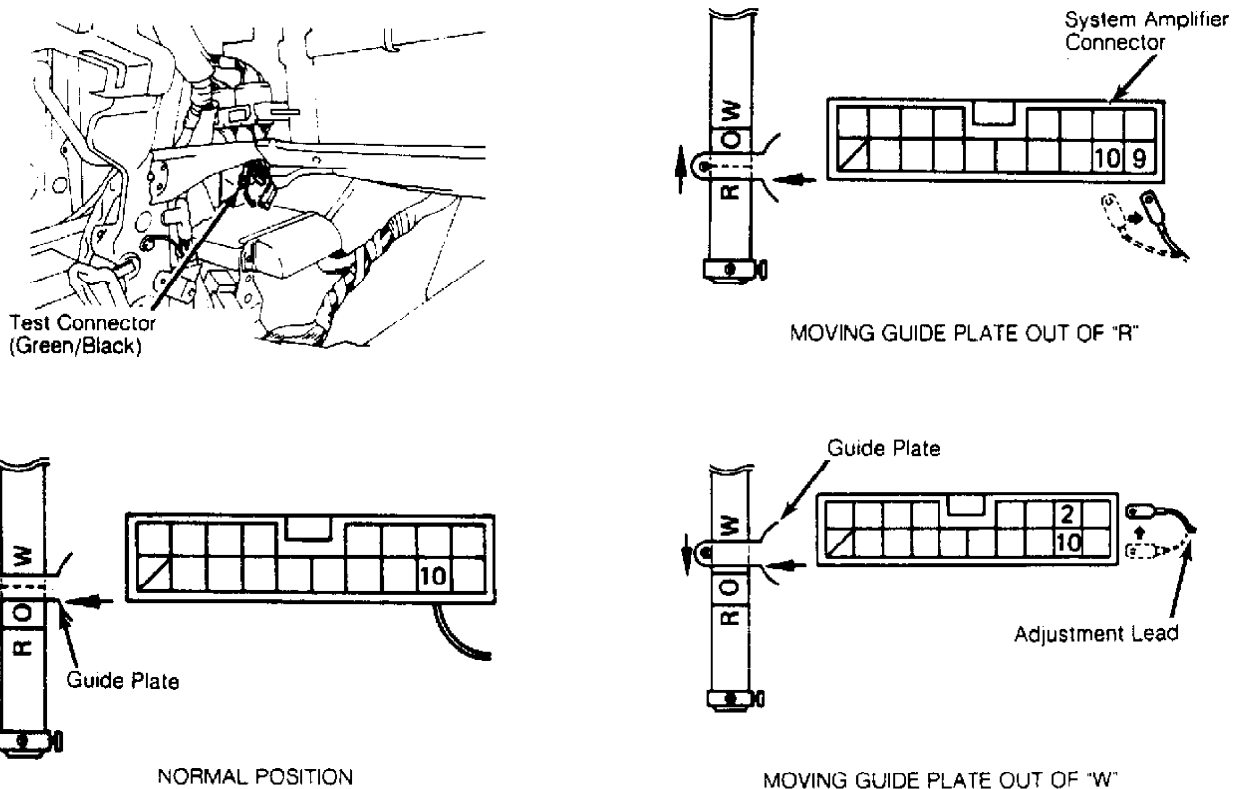

Fig. 3: A/C Temperature Control System Test
2) Place temperature control lever at 77°F (25°C). Start and run engine at idle. Depress "AUTO" fan speed control switch. Verify that guide plate on servo motor is located at "O" mark. See Fig. 3.